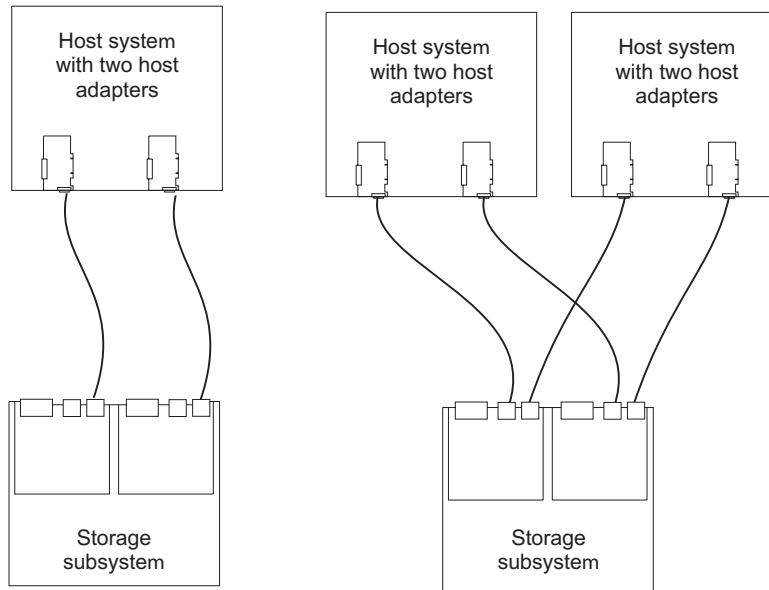

Figure 55. Examples of redundant host direct attached Fibre Channel SAN configurations
- Redundant host direct-attached configurations, as shown in Figure 55 on page 86